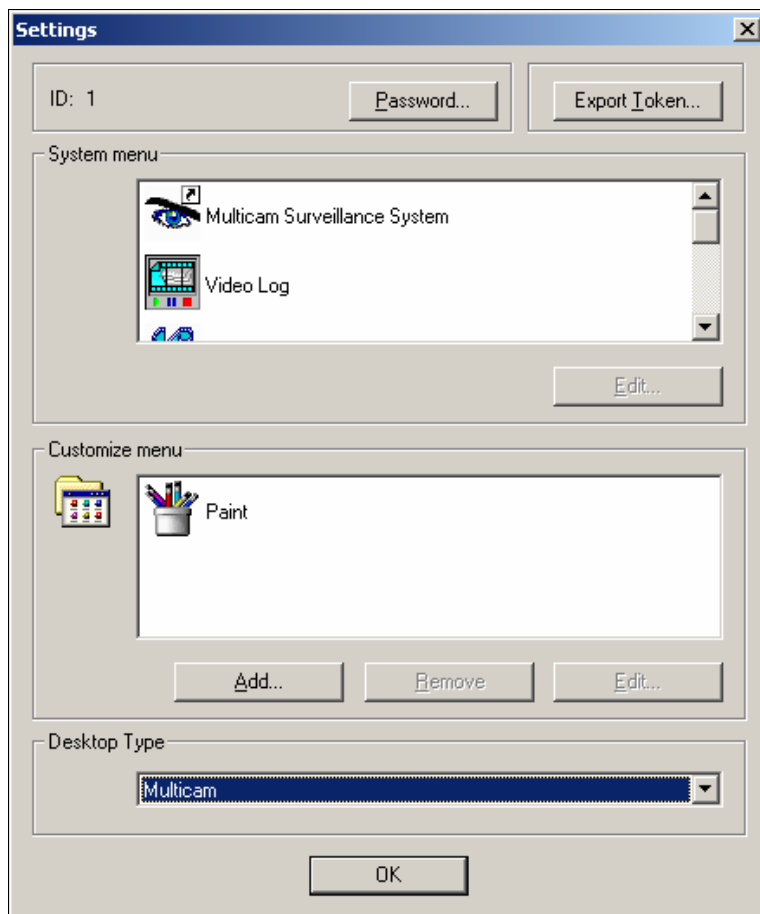

Figure 11-20
7. When the Settings window (Figure11-20) appears, select **Windows** in the Desktop Type field, and then exit from the window.